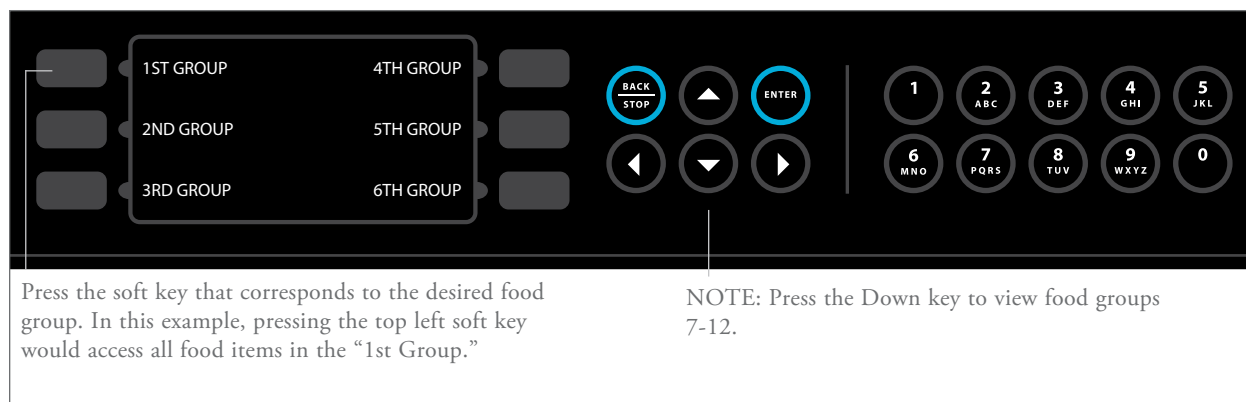

Figure 9: Selecting a Food Group
4. To select a food group, press the corresponding soft key (Figure 9).